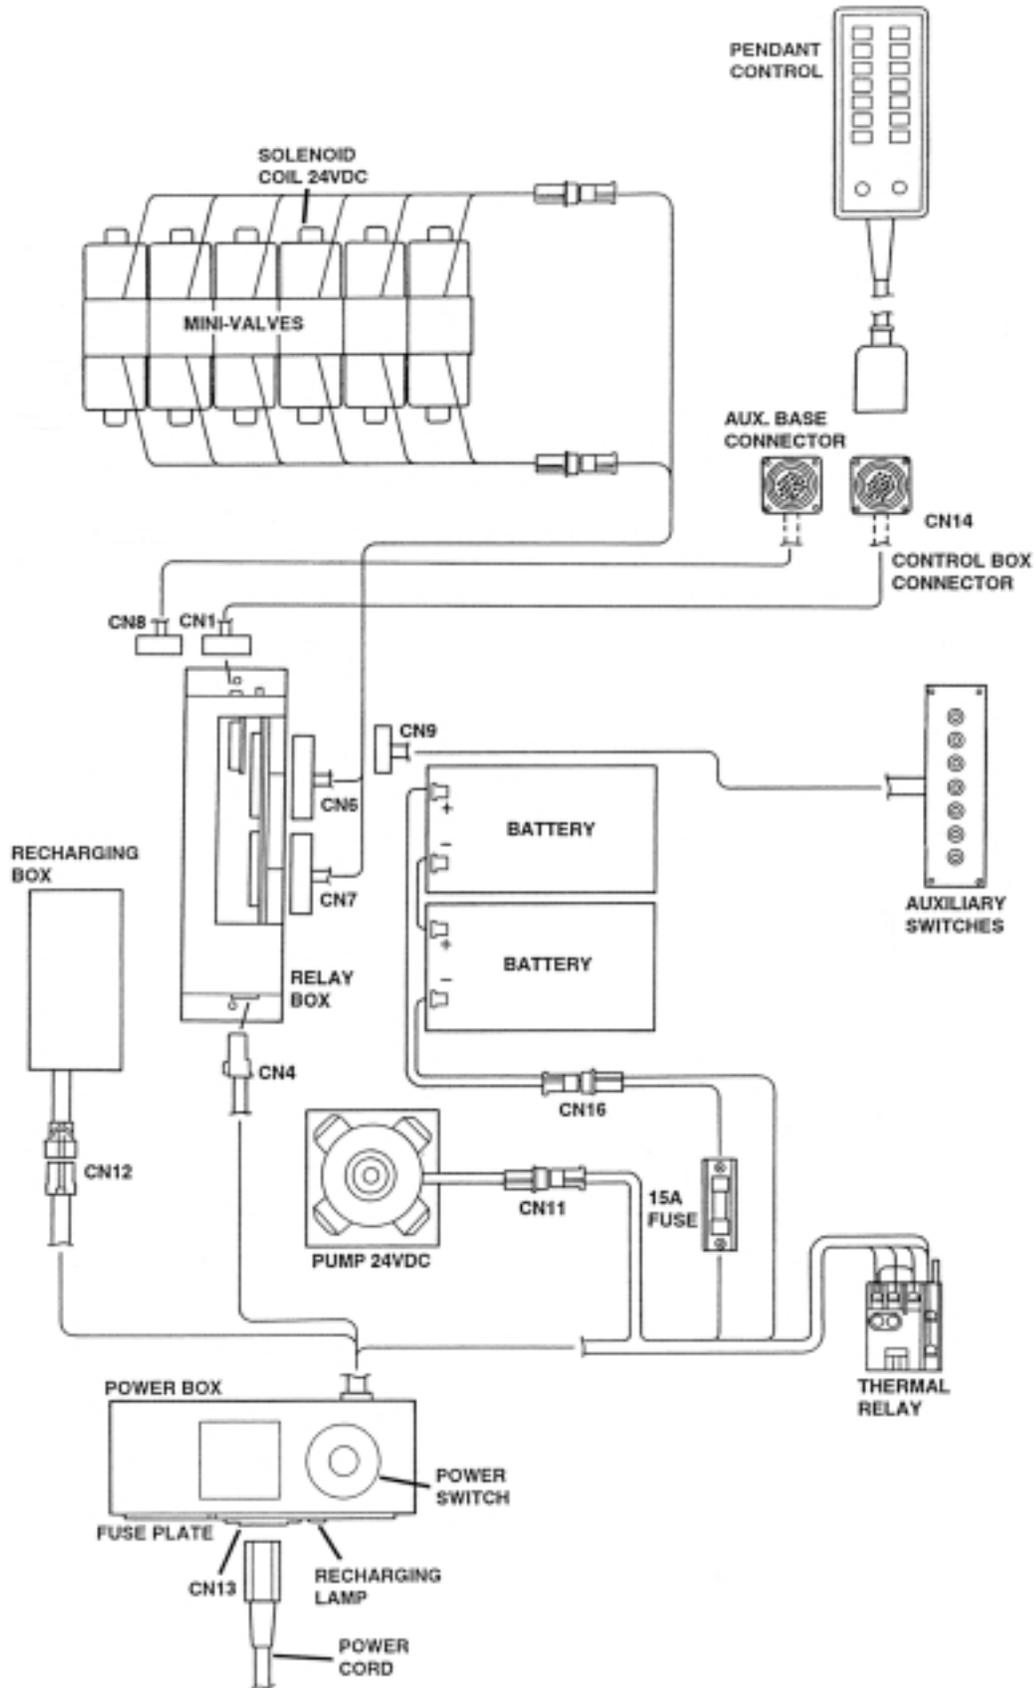

Figure 6-1. Electrical Circuit Block Diagram, Model 6001B
2. Disconnect connector CN12. See figure 6-1. Leave all other connectors connected.